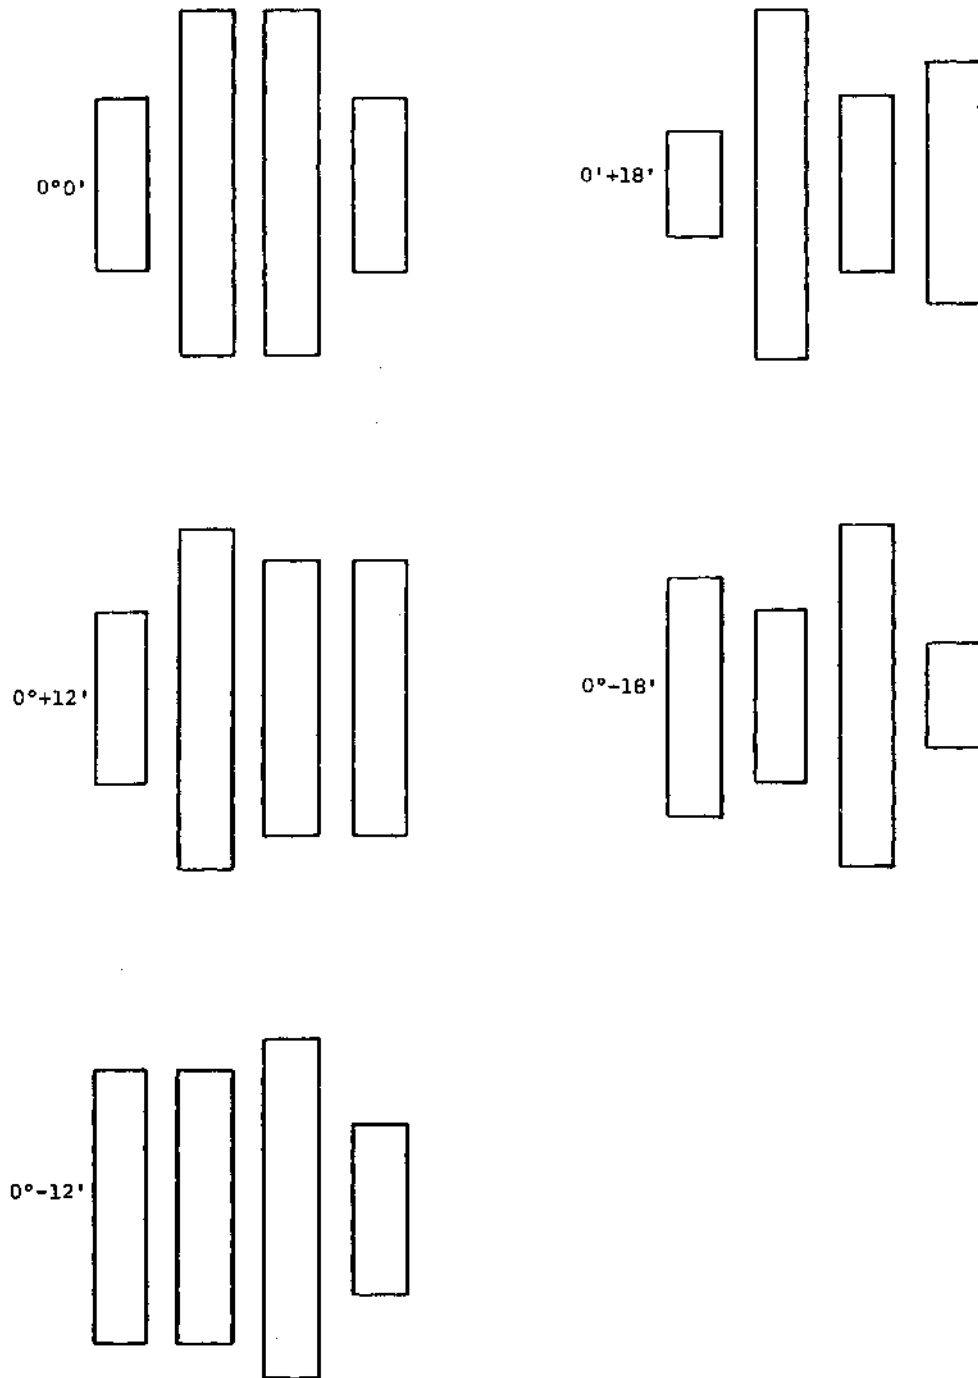

Fig. 8 Azimuth Burst Patterns
- ④ Seek Track 76 (Side "0"), Track 72 (Side "1").
- ⑤ Load the head.
- ⑥ Confirm that oscilloscope readings are similar to the patterns and within the tolerances shown in Fig. 8.